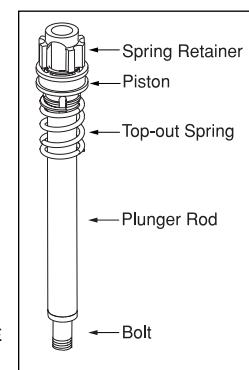

Fig. 6
- The plunger/damper assemblies are installed by dropping the assembly down inside the upper tube from the top. See figures 6 and 7 for orientation of parts for both the plunger (right side) and damper rod assembly (left side). Thread plunger/damper bolt with a 6", 6mm hex wrench and 6" extension and torque to 80in-lb (9Nm).